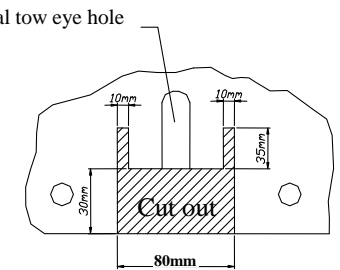

Fig. 4
8. Reinstall plastic cover after cut her fragment as shown figure 4.
9. Through hole (pos. B) and original tow eye twist on bolt M10x100mm using special scathing washers (pos. 5).
10. Fix body of the automat and place tow-ball according to supplied instruction. Note! Remember to place socket plate (pos. 3) as shown on the drawing 1.